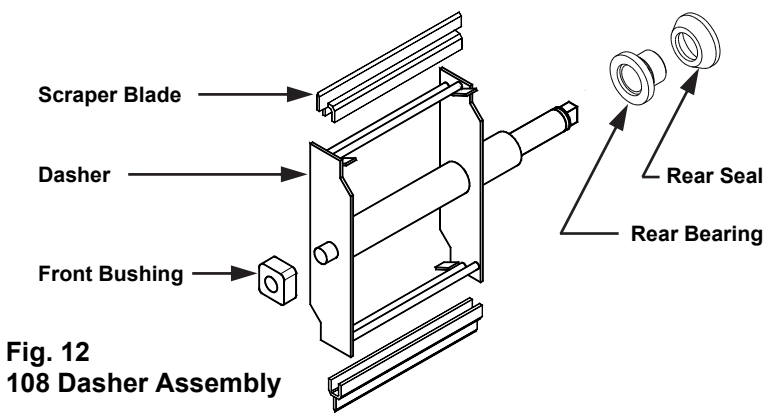

Fig. 12
- b. (108 Only, Fig. 12) Remove the blades from the dasher by first rotating blade upward and then unsnapping one end from the support rod.